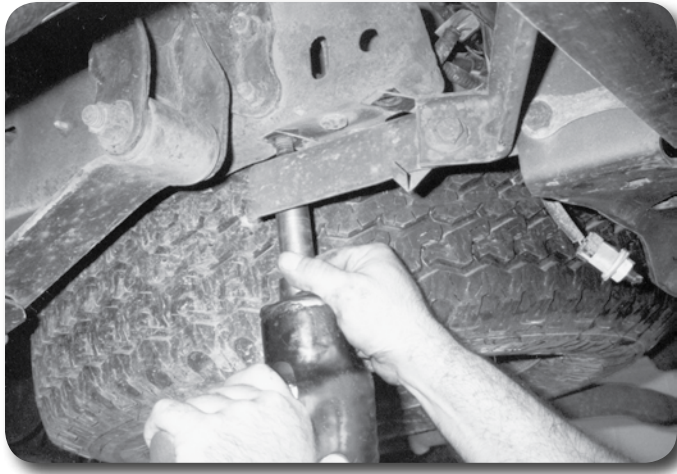

Figure 19
60. Remove the four bolts that mount the rear bumper to the frame **Figure 19** and remove bumper from the vehicle. Save hardware.